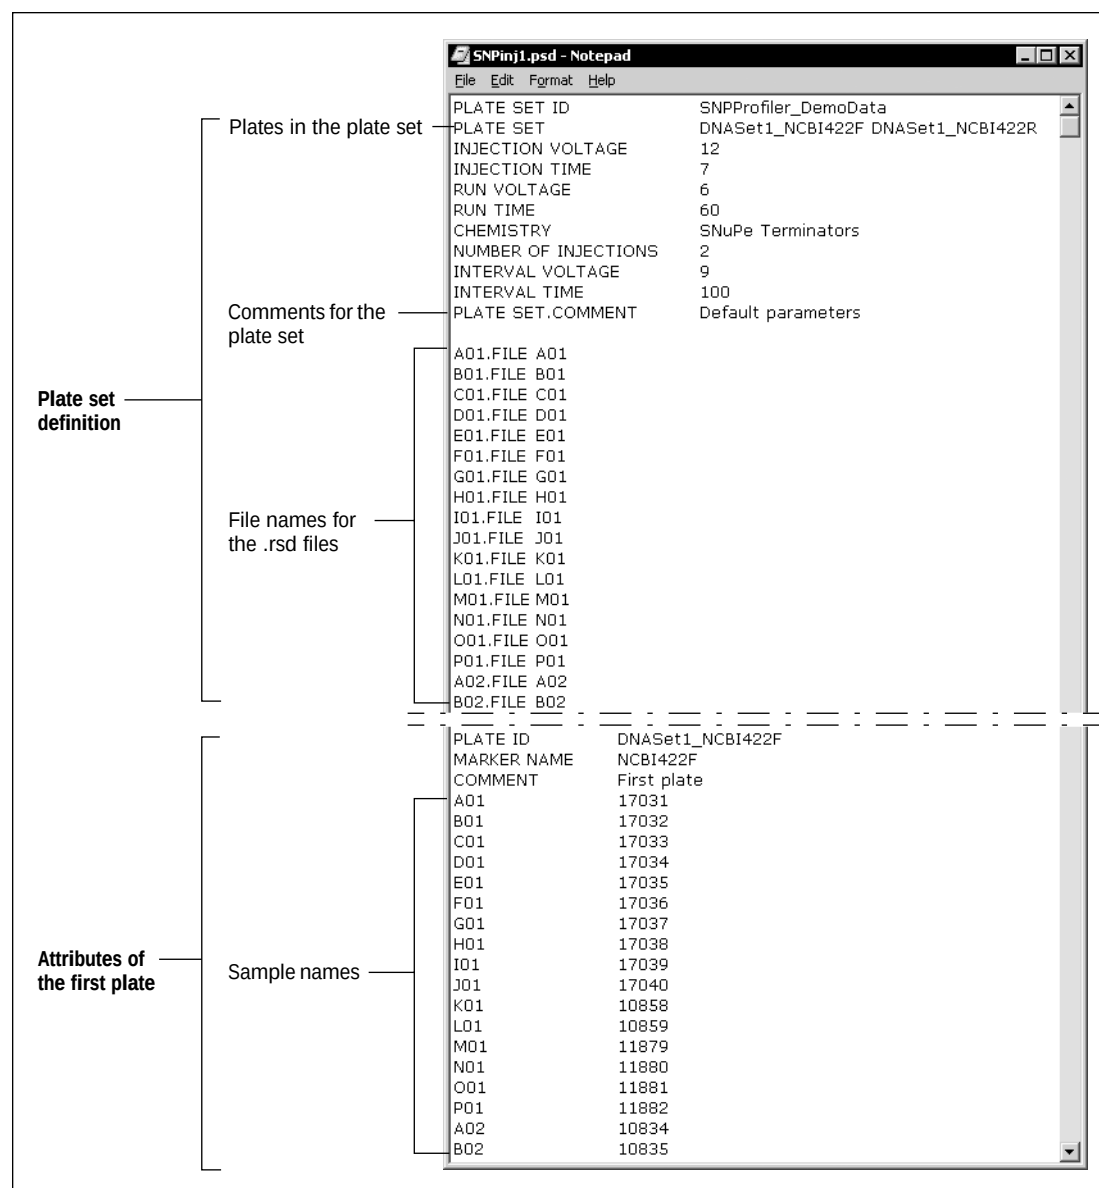

Figure 13-1. Example of master .psd file that defines both the plate set and the first plate to be injected.
- **Master .psd file**—Figure 13-1 shows a master .psd file. The master .psd file for the plate set can list the set of plates included in a multiple-injection run and define the plate setup parameters shared by all the plates in the run. The master .psd file can also include the plate-attribute fields for the first plate that you inject. For example, you can specify a plate ID and the SNP marker name for the first plate, and you can associate a sample name with each well in the first plate.
- **Master .psd file**—Figure 13-1 shows an example of a master .psd file that includes the plate set definition. Table 13-1 lists the fields for the master .psd file. In addition to these fields, the master .psd file can contain fields that define the attributes of the first plate injected in the run (table 13-2).